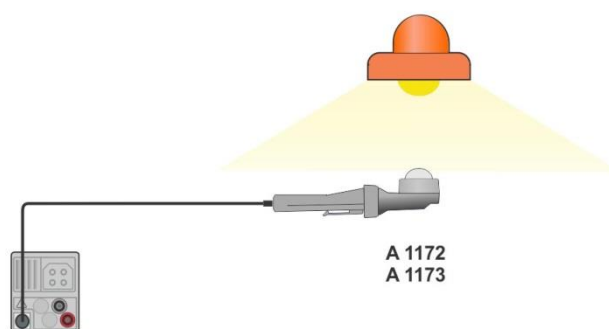

Figure 7.91: LUXmeter probe positioning
- › Take the position of LUXmeter probe, see **Figure 7.91**.